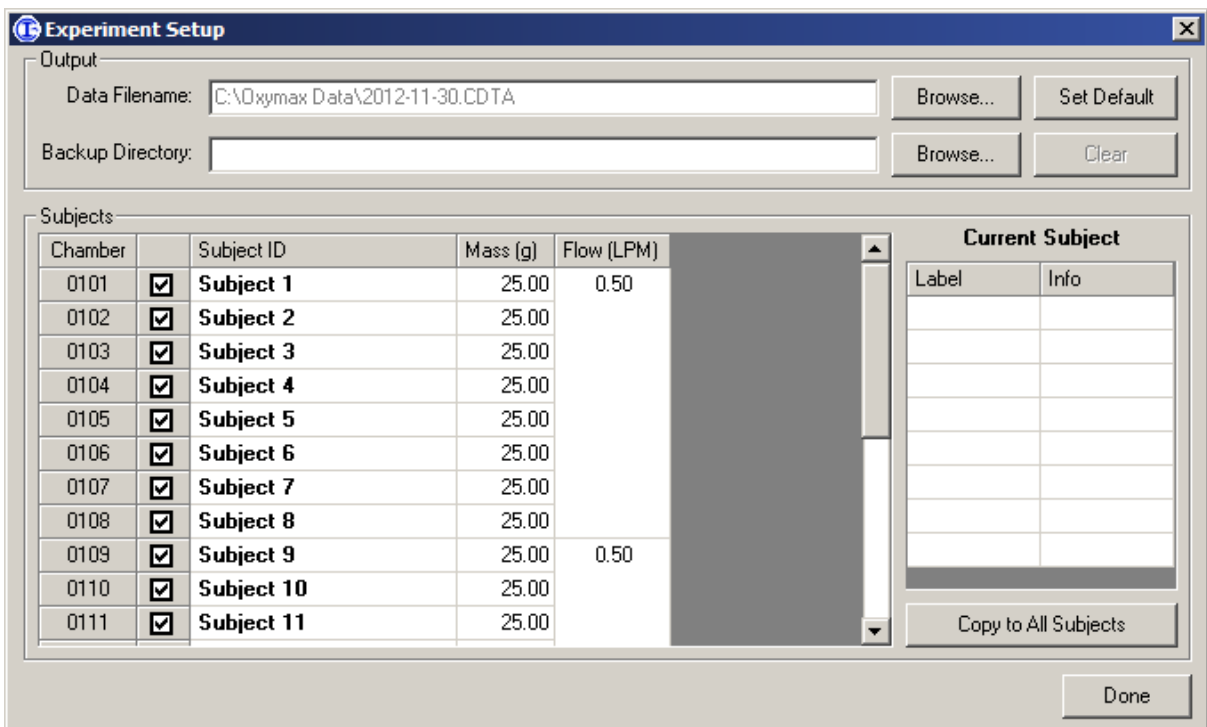

Figure 9 - Experiment Setup Window
The Experiment Setup Window can be reached from the “Experiment >> Setup” menu after a blank data file has been created. An example of an Experiment Setup Window appears in Figure 9.
- **Chamber** – This numerical identifier is comprised of the group to which the chamber belongs as well as its position within that group. A “group” is defined as a collection of chambers that share gas sensors. Systems with multiple sets of gas sensors can take samples from multiple chambers at once, but each chamber is always sampled from only one set of sensors. In the example system presented in Figure 9, the system is comprised of eight chamber and one set of gas sensors (Oxygen and Carbon Dioxide).